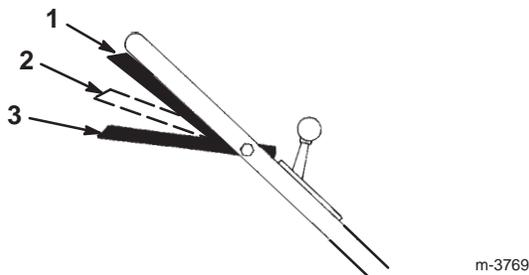

Figure 10
- Squeeze the control bar against the handle to the **Run/Drive** position (Fig. 10).
Note: Do not shift speeds while squeezing the control bar against the handle in the **Run/Drive** position; this can damage the transmission. Move the control bar to the **Run/Shift** position (Fig. 10) when you change the ground speed.